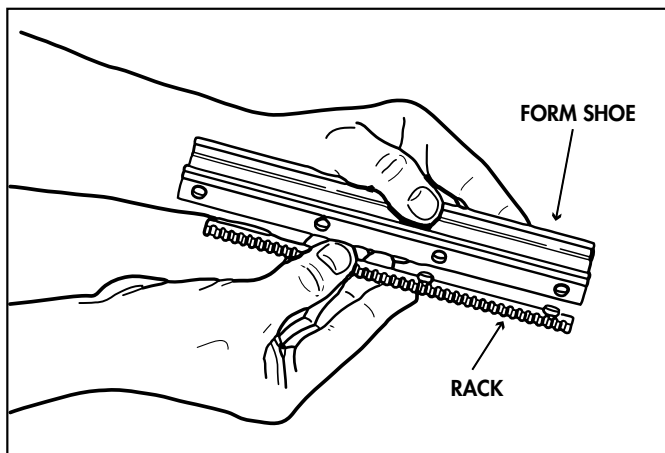

Figure 7. Attaching the Rack to the Form Shoe
f. Select a form shoe containing the correct size groove for the tube to be bent, and engage the dowels on the rack into the holes on the underside of the form shoe. (See figure 7.) The form shoe can be turned end to end, with respect to the rack, to select the proper size groove in the form shoe.